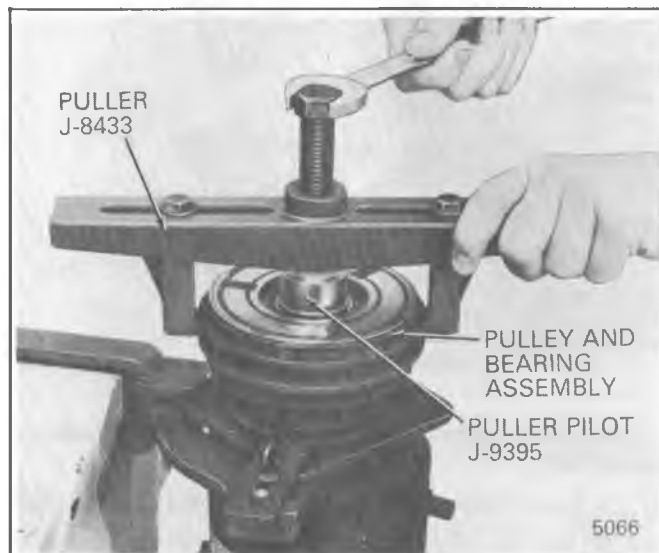

Fig. 1D-10 Removing A-6 Pulley and Bearing Asm.
5. Remove Pulley and Bearing Assembly, using Pulley Puller J 8433 (Fig. 1D-10).
Check the appearance of the Pulley and Bearing assembly (see Fig. 1D-5). The frictional surfaces of the Pulley and Bearing assembly should be cleaned with trichloroethane, naphtha, stoddard solvent, kerosene or equivalent solvent before reinstallation.